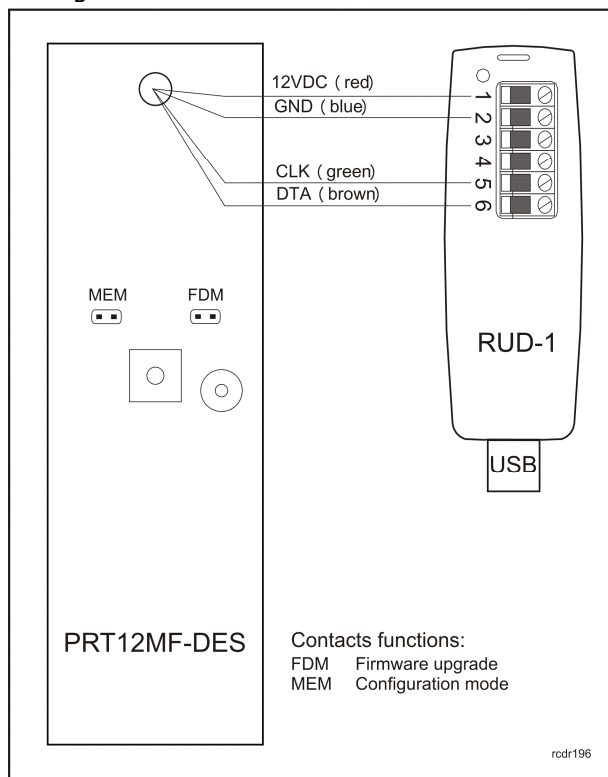

Fig. 3 PRT12MF-DES connection to RUD-1 interface.
To perform this method reader has to be connected to PC via RUD-1 interface (Fig. 3) and programmed by means of RogerVDM software.
1. Connect reader to RUD-1 interface according to Fig. 3.